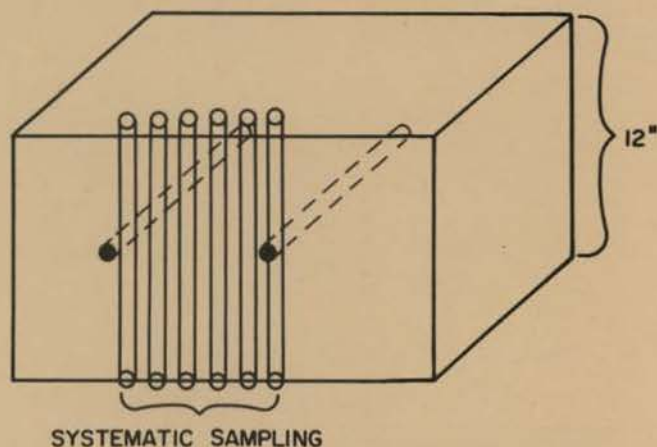

Fig. 8. Systematic soil sampling in field where fertilizer has been banded (sampling method 1).
**Systematic Sampling Method** — You must know the direction, depth and spacing of the fertilizer band to obtain a representative soil sample with this sampling procedure. If this information is known, take 5 to 10 soil samples across the band row beginning in the edge of a fertilizer band and ending at the edge of an adjacent band (Fig. 8). Follow this procedure on at least 20 sampling sites in each field or portion of a field being sampled. Mix and composite the soil from each of the 20 sites to obtain a soil sample representative of the area.